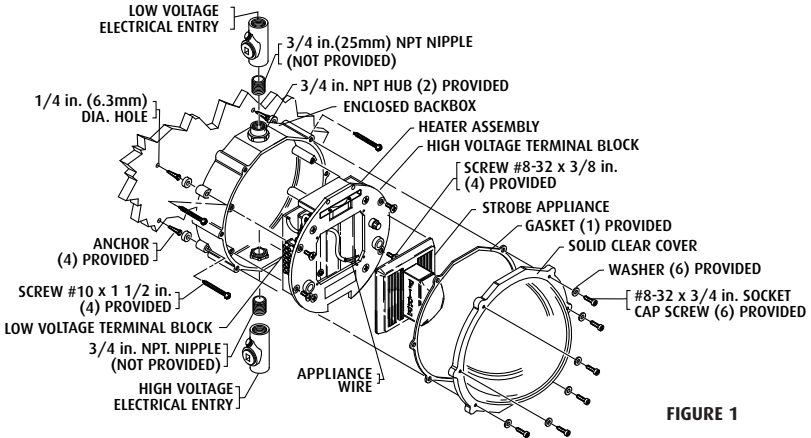

FIGURE 1
MOUNT BACKBOX TO WALL (Refer to Fig. 1)
2. Mount backbox in desired location (wall mount only) using the four #10 x 1-1/2" screws and anchors (provided). Drill a 1/4" diameter pilot hole for plastic anchors at spacing in Fig. 1.
9. Attach heater assembly to backbox using (4) #8-32 x 3/8" flat head screws into heater assembly mounting bosses on backbox (see Fig. 1). Make sure all service wiring is gathered away from the heater and be careful not to pinch wire under heater assembly. Fan must be mounted toward top of enclosure.